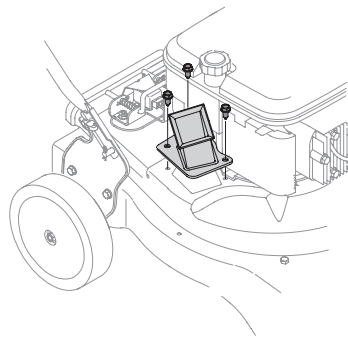

Figure 21
- Remove the three hex cap screws holding the chipper chute to the upper housing. See Figure 21.